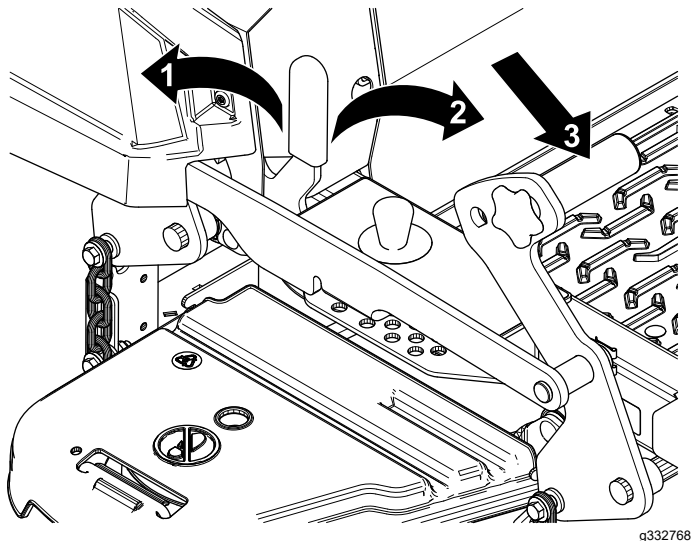

Figure 31
1. Push the deck-lift pedal fully forward to lock the mower deck in the TRANSPORT position (Figure 31).
2. Push the deck-lift pedal forward and push the transport lock forward to the UNLOCK position, then slowly lower the mower deck. (Figure 31).